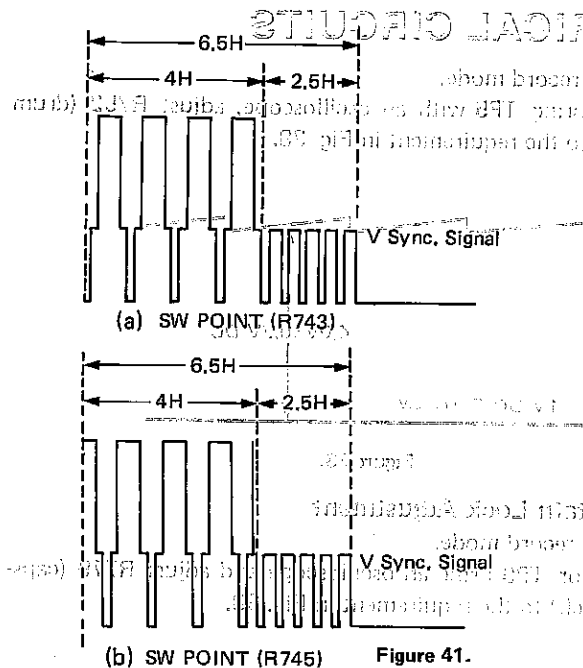

Figure 40.
4. Adjust (pre-set) R750 so that the requirement given in Fig. 40 is met.